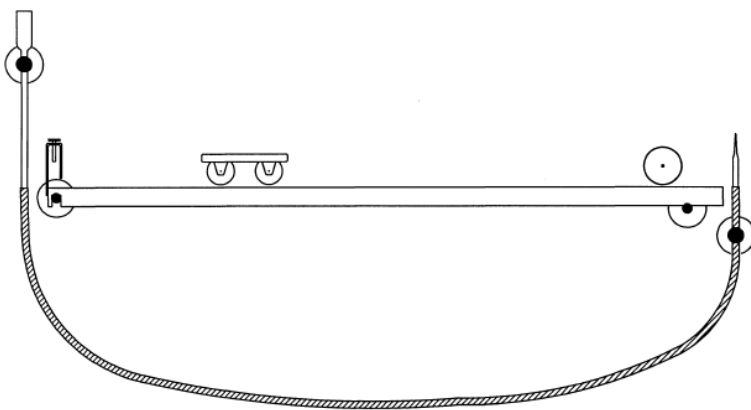

Fig. 3
- Place the hose level at the ends of the track with the clamps (Fig. 3).